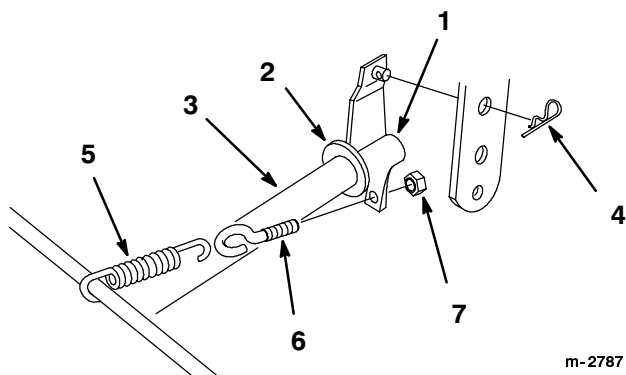

Figure 18
12. Loosen locknut on eyebolt to relax spring tension (Fig. 18). Unhook lift assist spring from frame cross rod.
13. Remove hairpin cotter to disconnect lift rod from attachment lift (Fig. 18).
14. Remove lift rod (and optional spacer washers) from lift tube (Fig. 18).